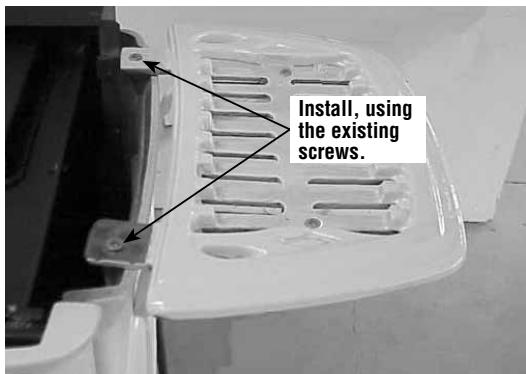

Figure 44 - Installing onto Stove Body
3. Using the existing screws on the stove body, install both warming shelf assemblies as shown in **Figure 44**. Tighten screws just enough to level shelves.